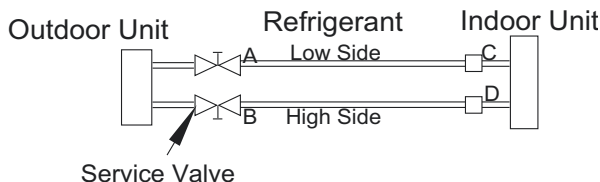

Fig. 25 —Service Valve
1. Completely tighten all flare nuts and connect manifold gage charge hose to a charge port of the low side service valve (see Fig. 25).